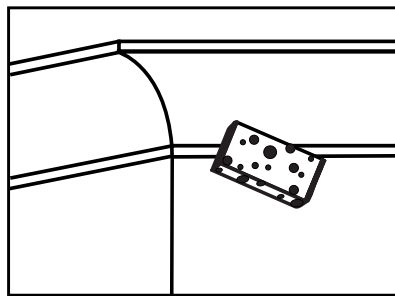

FIGURE 65 Wipe Down
- Wipe down the cornice with a wet sponge [Figure 65].